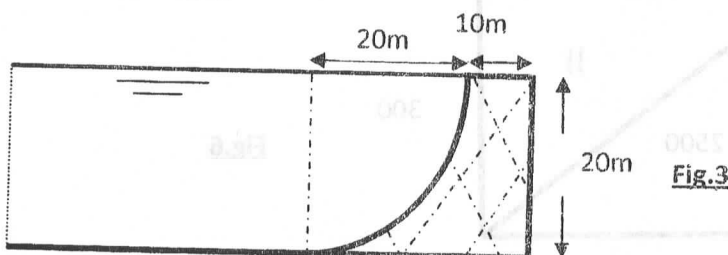

Fig.3
B) The concrete gravity dam shown in fig.3 is a quarter circle 50 m wide perpendicular to the paper. It is required to a) Determine the magnitude and direction of the hydrostatic force acting on the dam; b) Check the stability of the dam. Consider specific weight of dam concrete 24 KN/m^3 , specific weight of reservoir water 9.81 KN/m^3 , and coefficient of friction between dam and foundation = 0.75.